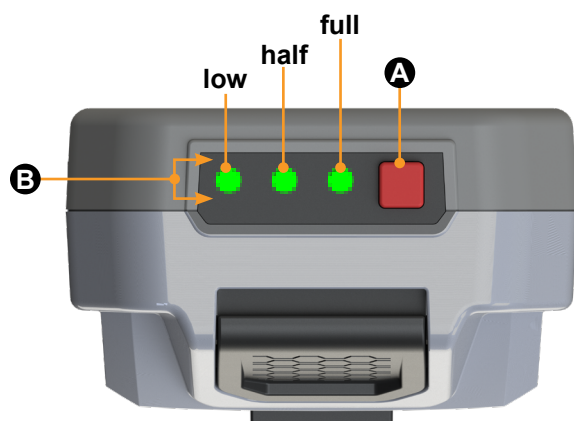

Fig.75
D. When all three power level indicator lights (**Fig.75**) turn on green, the battery is fully charged.